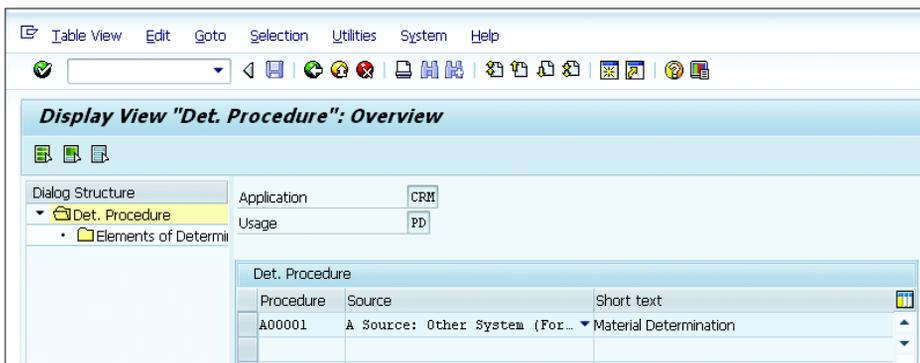
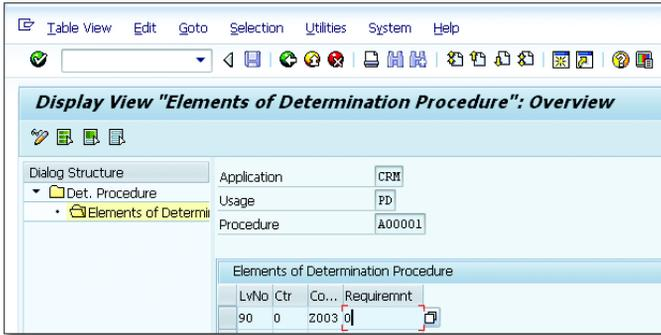

Figure 4.35 Material Determination Procedure
Figure 4.36 Condition Type within the Determination Procedure
5. The determination procedure comes with the Customizing object. SAP ERP represents the A SOURCE: OTHER SYSTEM option represents SAP ERP, as shown in Figure 4.35. Figure 4.36 shows the elements that must then be configured for the determination procedure.